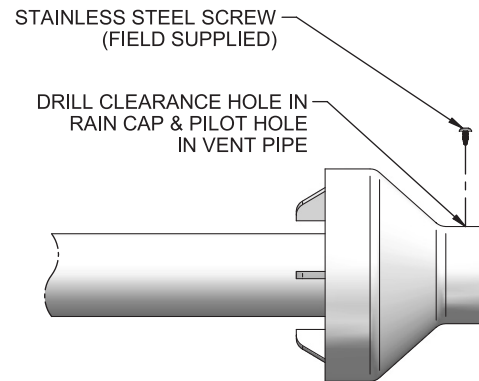

Figure 40. Rain Cap to Vent Pipe Alternate Assembly
NOTE: Instead of cementing the smaller pipe to the rain cap, a field-supplied stainless steel screw may be used to secure the two (2) components together when field disassembly is desired for cleaning (see Figure 40).
NOTE: Instead of cementing the smaller pipe to the rain cap, a field supplied stainless steel screw may be used to secure the two (2) components together when field disassembly is desired for cleaning (see Figure 40 on Page 29).